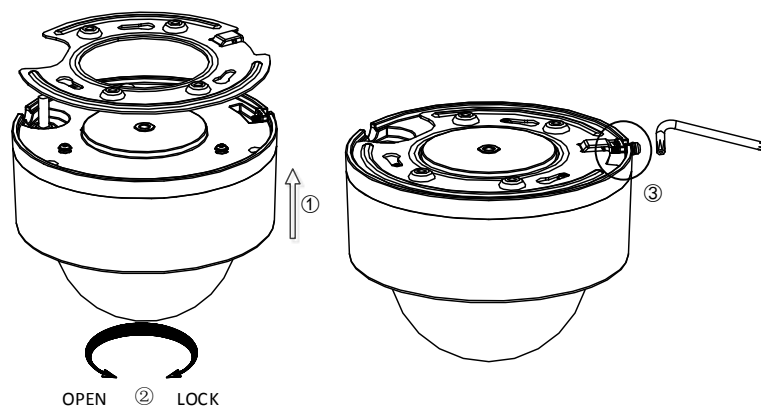

Figure 2-25 Fix the Camera
6. Fix the screws on the side with Allen wrench, as shown in Figure 2-25.